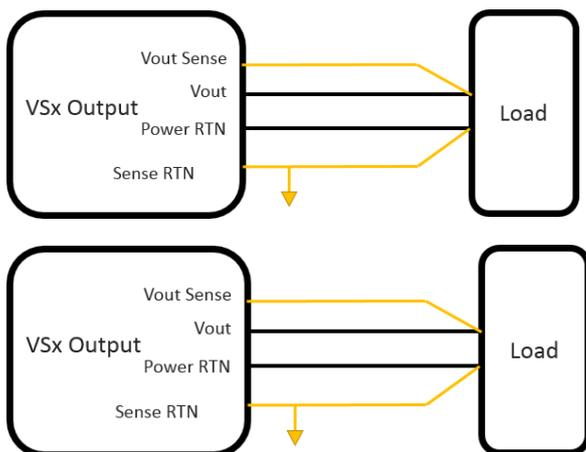

Figure 3: PSVD3UU48P600-X Sense line connection
*Sense Lines* proper connection is shown in Figure 3.